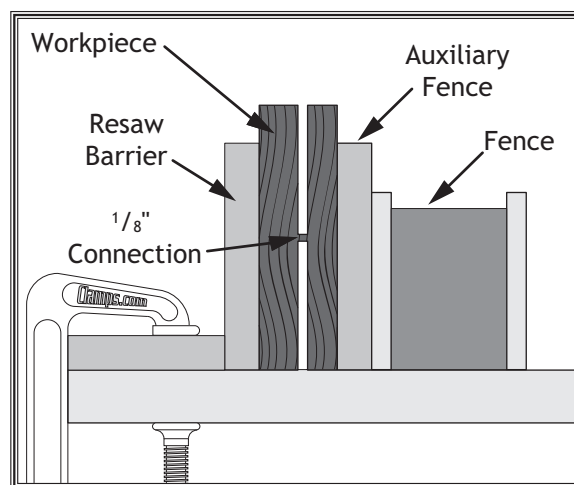

Figure 58. Ideal completed resaw cut.
4. Place the workpiece against the fence and slide the resaw barrier against the workpiece. Now clamp the resaw barrier to the top of the table saw (see Figure 58).
6. Raise the blade approximately an inch, or close to half the height of the workpiece (Figure 58), which ever is less.
9. Repeat Steps 6-8 until the blade is close to half of the height of the board to be resawn. The ideal completed resaw cut will leave an $\frac{1}{8}$ " connection when the resawing is complete as shown in Figure 58. Leaving an $\frac{1}{8}$ " connection will reduce the risk of kickback.